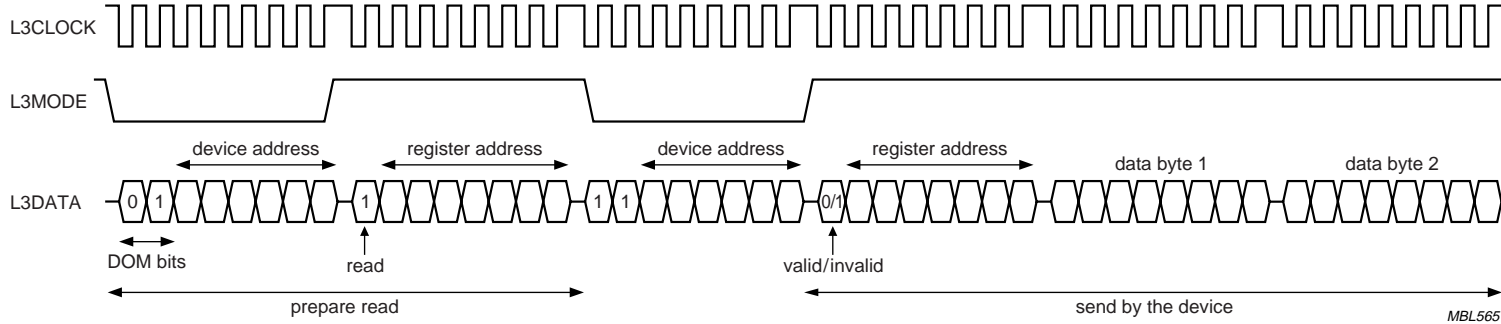

Fig.6 Data read mode.
2. Addressing for prepare read: bit 0 is logic 1, indicating that data will be read from the register (see Fig.6)
To read data from the device, a prepare read must first be done and then data read. The data read mode is explained in the signal diagram of Fig.6.